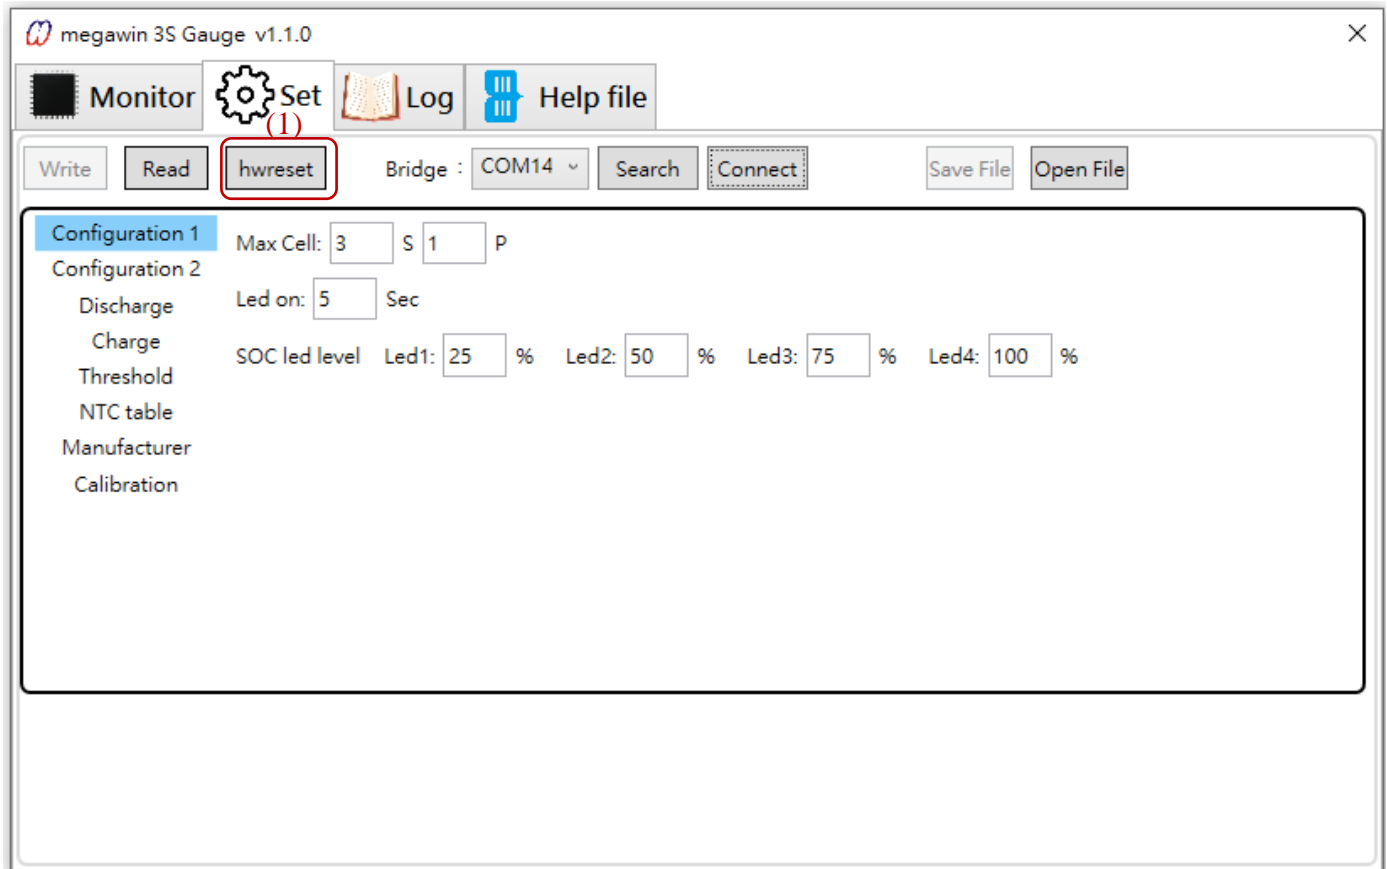

Figure 2-6 Reset Block
As the area shown in Figure 2-6 (1), this is used for MCU reset, which is mainly applied when the GUI has correctly written all the system parameters to the MCU, use this button to allow the MCU to reset and run again.